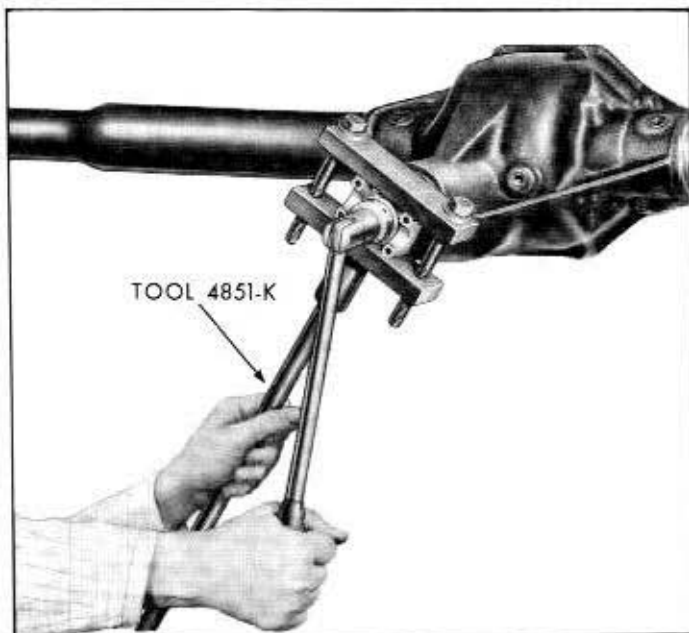

Fig. 4-7—Drive Pinion Shaft Nut Removal—(60C-5213)
4. Hold the flange with tool 4851-K shown in figure 4-7. Remove the pinion shaft nut and the flat washer.
9. Hold the drive pinion flange and remove the pinion nut. Remove the flat washer. Refer to figure 4-7.